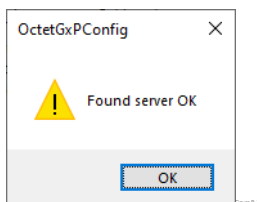

Figure B-19: Found server
4. Click **Apply & Test**. If the Octet® GxP Server module is functioning properly, this message appears (Figure B-19).